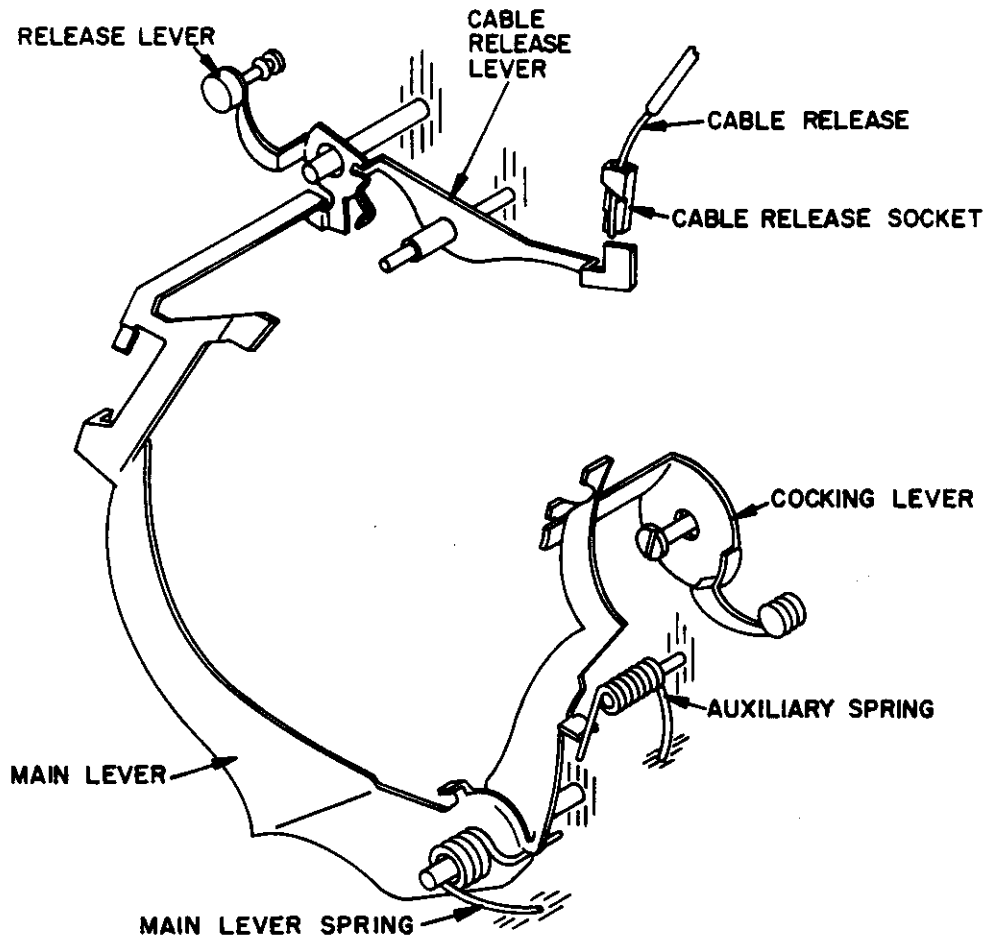

Figure 3. COCKING AND TRIPPING MECHANISM
3. Shutter Cocking (fig. 3)
4. Shutter Tripping (fig. 3 and 4)
9. Cable Release Mechanism (fig. 3)